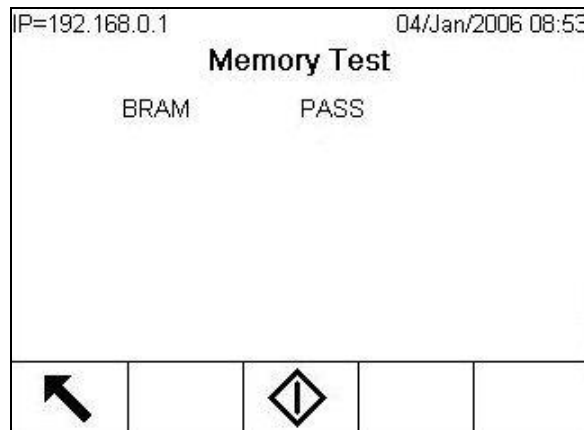

Figure 4-16: Memory Test Screen
- Memory Test (Figure 4-16)—To test the BRAM, press the START  softkey. When testing is complete, press the EXIT softkey  to return to the menu tree.